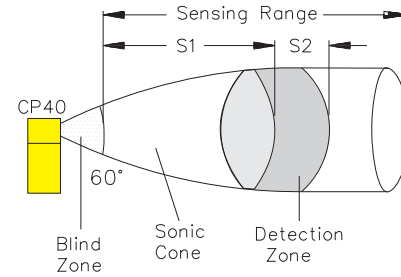

Figure 2
**CP40** - potentiometer S1 sets the near limit while potentiometer S2 sets the depth of the detection zone. This allows both foreground and background suppression. Changes to S1 will cause the far limit to follow (Figure 2).